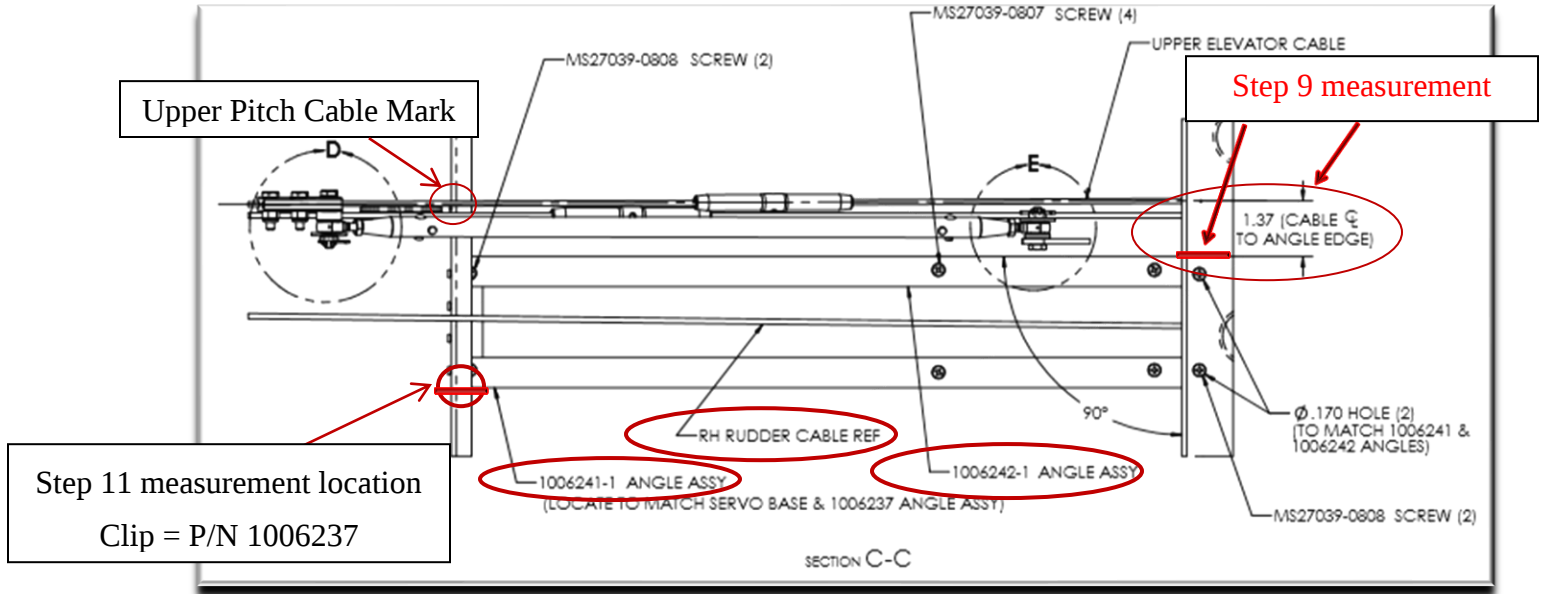

FIGURE 4-3 (TOP VIEW) PITCH SERVO BRACKET ASSEMBLY
8. The port edge of the pitch servo bracket is located 1.37 inches from the cable. Mark F.S. 124.00 with this measurement. This is a critical measurement. Refer to Figure 4-3.
10. This measurement defines the right most edge of clip, P/N 1006237. Refer to Figures 4-3, 4-4, and 4-5.